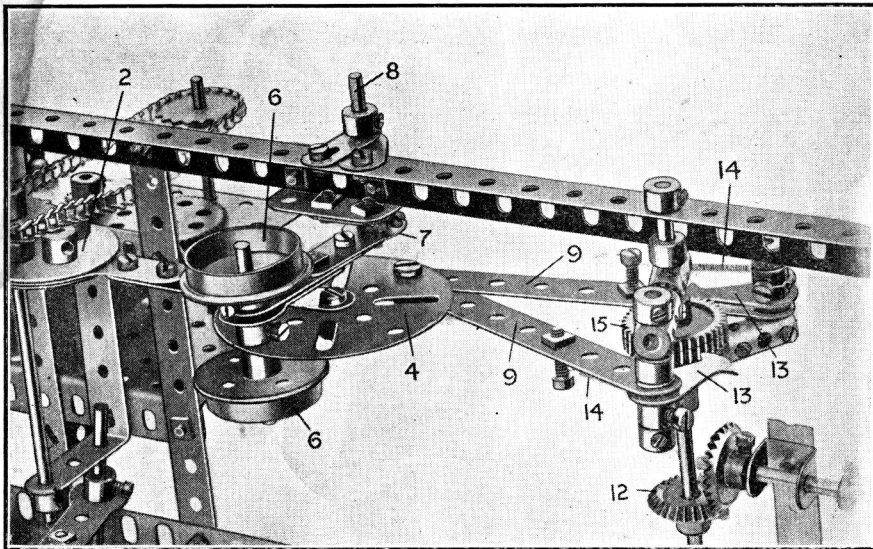

Fig. 5 Underneath view of Converter
from which the drive to the differential is conveyed through the bevels (12). Two pawls (13) are mounted on short rods secured in the outer holes of the coupling (shown more clearly in Fig. 5), these pawls, being controlled by short tension springs (14) so that they are kept in contact with a 1" gear wheel (15). When moving in one direction they trail idly over this gear wheel, but when moving in the other direction, they drive the gear wheel (15) and consequently the rod (11) to which the wheel is secured.